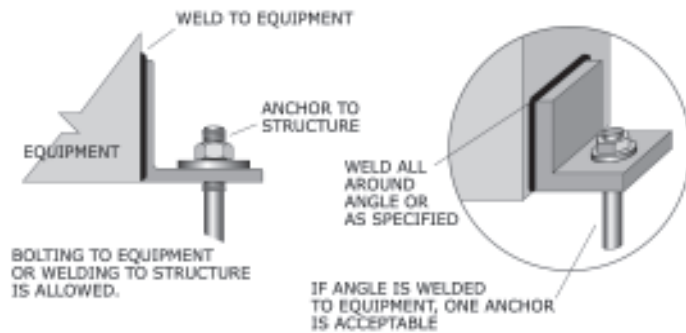

Figure 74: Four or more angles welded to equipment and bolted to the floor/pad.
- Four or more angles welded to equipment and bolted to the floor/pad: Figure 74 (page 38).